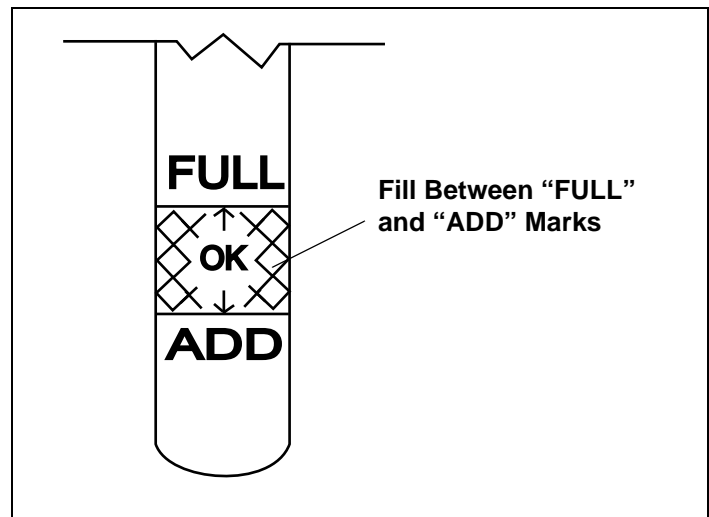

Figure 6. Engine Oil Level
- Keep oil level between "FULL" and "ADD" marks on oil fill cap/dipstick or to point of overflow on engines with an oil fill cap/plug. See Figure 6.
4. Unscrew and remove oil fill cap/dipstick from oil filler tube. Note oil level. If oil reading on dipstick is below "ADD" mark, slowly add oil to reach "FULL" level. See Figure 6 on page 4. Afterward, continue reading instructions below.